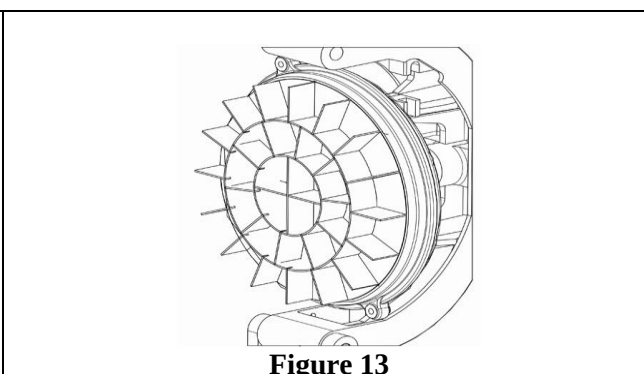

Figure 13
- 6) clean the head and knives (Figure 13);